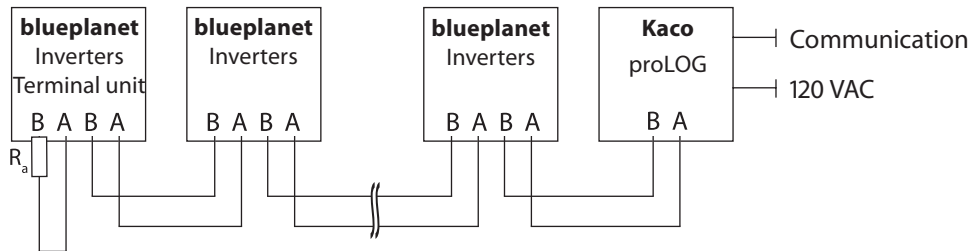

Figure 20: RS485 interface wiring diagram
- Wire B (+) with wire B (+) (see Figure 20 on page 27)